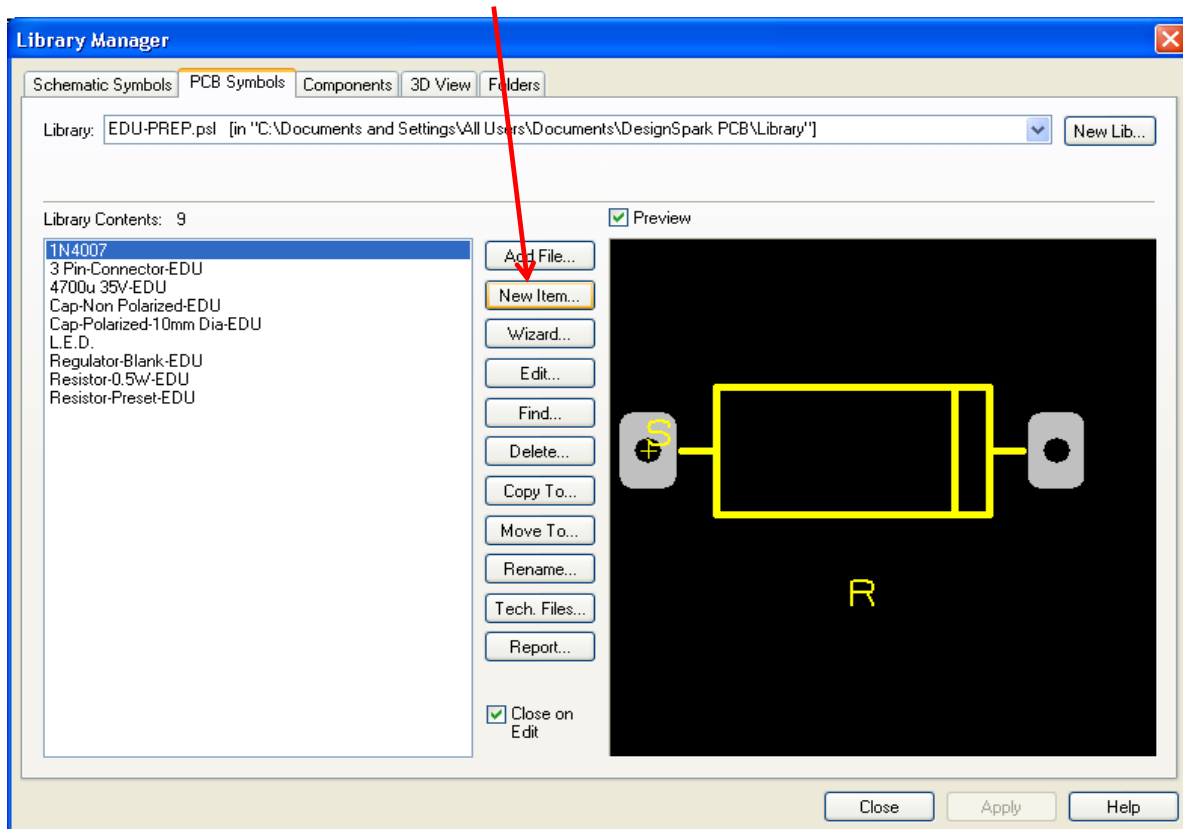

Figure 6-24: Library Creation – New item
24. Select the “Tech. Files” button to load previously saved Technology Files with Units and Grid preferences, before selecting the “New Item” button as shown in Figure 6-24.